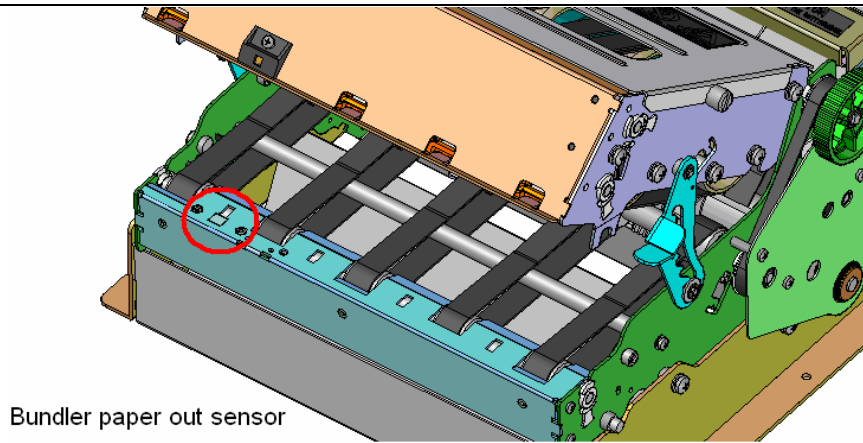

Fig.3.4.3 Bundler sensor 2
- ✧ Bundler paper out sensor: The reflection optical sensor is used to confirm if users take away paper at the outlet when paper fed out of Bundler as shown in Fig.3.4.3.